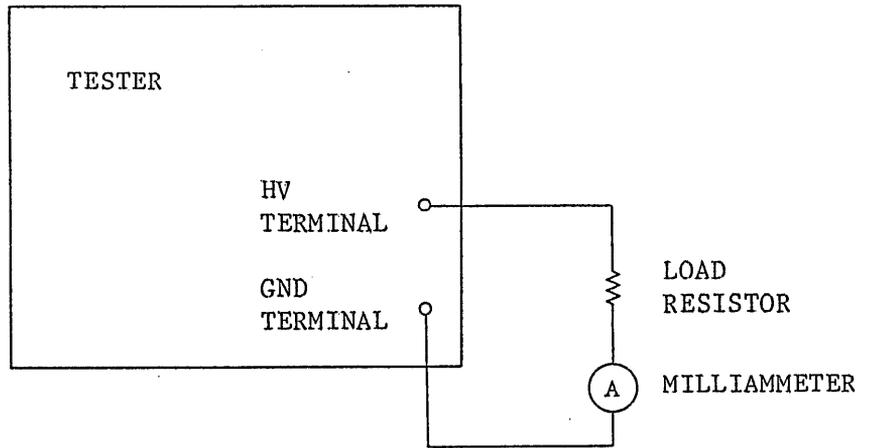
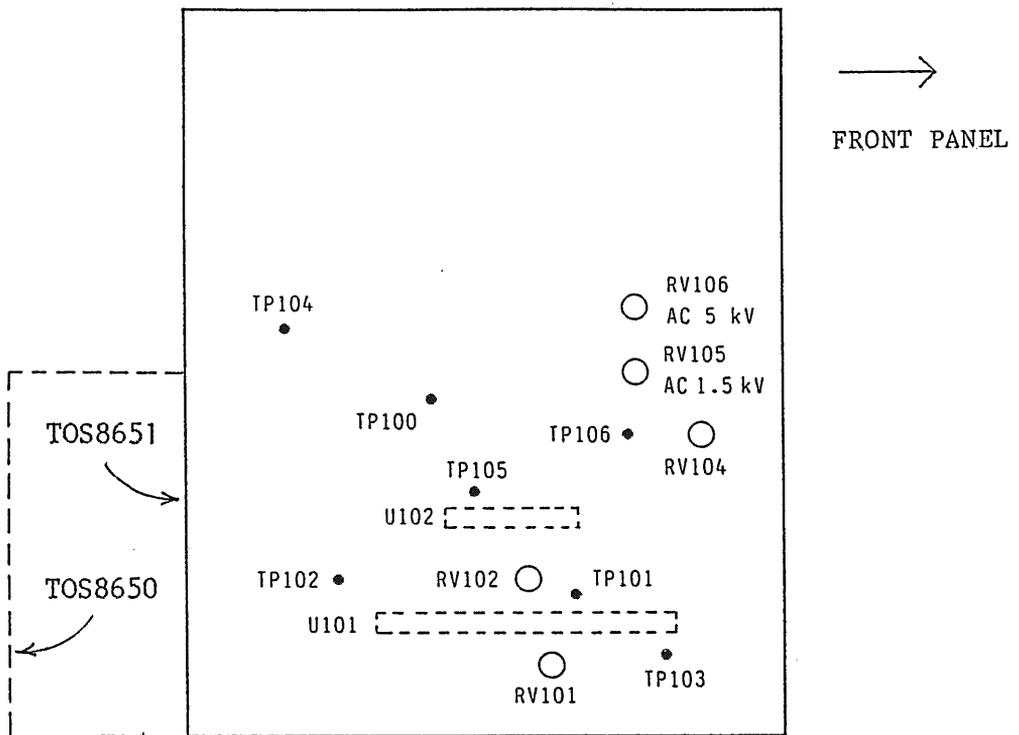

Figure 6.1
Figure 6.3
(2) Preparation and Notes Before Starting Calibration
- ① Before turning on the power switch, perform mechanical zero adjustment of the voltmeter.
- ② Turn on the power switch and allow a stabilization period of approximately 15 minutes.
- ③ Of the TOS8650, the semi-fixed potentiometers are located on the PC board at the left-hand side in the casing. The layout of the potentiometers and test points are shown in Figure 6.3.
(5) Calibration of Cutoff Current (Leak Current Detection Sensitivity)
- ① Set the MULTIPLIER knob on the front panel of the Tester to the CAL'D position.
- ② Measure the Voltage of pin 6 of U102 or TP106 with reference to TP100. Adjust the voltage to $2.5 \text{ V} \pm 0.2\%$ with RV104. For the TP (test point) numbers, see Figure 6.3.
(6) Check of Cutoff Current
- ① With the adjustment of Item (5) alone, the cutoff current should satisfy the accuracy of judgment to the specification. If it does not, the Tester is malfunctioning. No further adjustments than that of Item (5) can be made and the Tester needs repair service.
- ② Set the panel switches and dial in the same manner as mentioned in Item (3), ①.
- ③ Connect a load resistor and a milliammeter which are corresponding to the set cutoff current, as shown in Figure 6.1 or 6.2. Select a resistance from Table 6.1 in conformity with the set current.
- ④ Set the Tester to the TEST ON state and gradually increase its output voltage until the Tester generates an NG signal at approximately 1 kV. Turn slightly the TEST VOLTAGE dial counterclockwise, set the Tester again to the TEST ON state, and increase the output voltage very slowly.
- ⑤ Read the current immediately before the NG signal is generated and the output is cut off.
- ⑥ For each of the cutoff current values to be tested, repeat the procedure of Steps ③ - ⑤.
(7) Calibration of Cutoff Current (Leak Current Detection Sensitivity)
- ① Set the panel switches and knobs of the Tester as follows:
- ② Connect a load resistor (2 M Ω) and a milliammeter (0.5 mA FS) as shown in Figure 6.1 or 6.2.
- ③ Set the Tester to the TEST ON state and gradually increase its output voltage until the Tester generates an NG signal at approximately 1 kV. Turn slightly the TEST VOLTAGE Knob counterclockwise, set the Tester again to the TEST ON state, and increase the output voltage very slowly.
- ④ Read the current immediately before the NG signal is generated and the output is cut off.
- ⑤ Adjust the CUTOFF CURRENT ADJ 0.5mA semi-fixed potentiometer so that the NG alarm signal is generated accurately at 0.5 mA.
- ⑥ Calibrate each of the ranges of 1 - 100 mA in the same procedure as in Steps ① - ⑤. Select load resistances corresponding to cutoff current ranges, referring to Table 6.1. Also select the measuring ranges of the milliammeter accordingly.